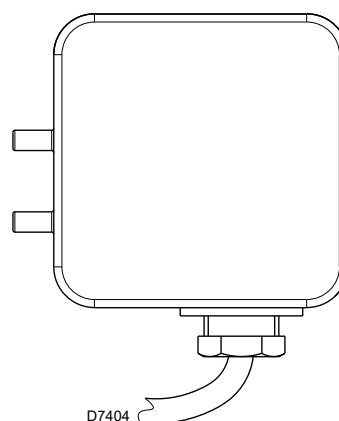

Fig. 25
- Adjust the air pressure switch (Fig. 25) to the start of the scale.
Adjust the air pressure switch (Fig. 25) after performing all other burner adjustments with the air pressure switch set to the start of the scale.